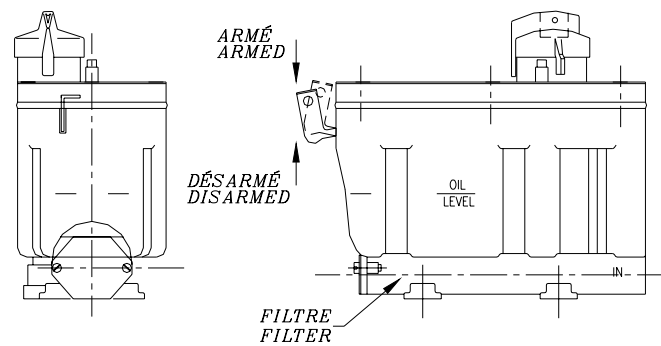

Figure 14A: ARMING / DISARMING THE CARBURETOR (VALVE)
- If not already done, arm down the carburetor's lever located behind the stove (figure 14A).